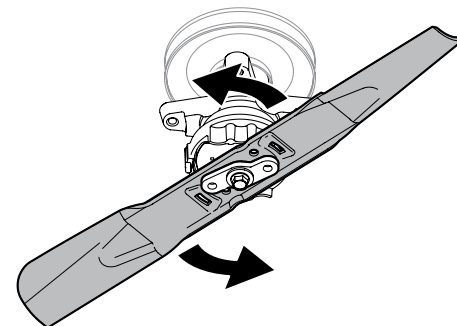

Figure 4-7
- While holding the collar in the upward position, rotate the blade counterclockwise to free it from the collar. See Figure 4-7.